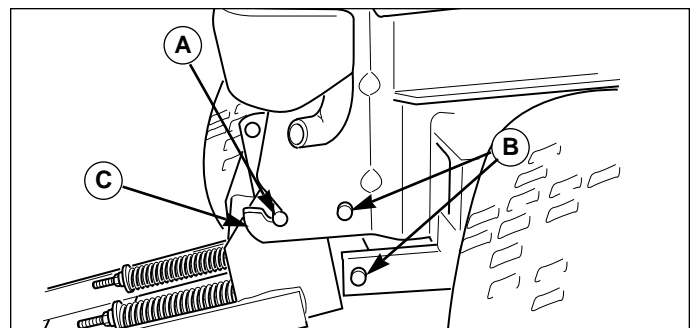

Figure 37. Attach Dozer
8. See Figure 37. Remove the 4 safety clips and clevis pins (B) securing the dozer to the tractor and lift the dozer off the attachment hooks (C).